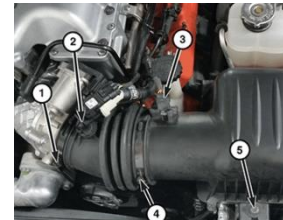

Fig 1: Air body cleaner
6. Remove the air cleaner body (see Fig 1):
- a. Loosen the air inlet tube retaining clamp at throttle body (Fig 1: ①).
- c. Disconnect makeup air hose and remove the makeup air sensor from the air inlet duct (Fig 1: ②).
- d. Disconnect the MAF sensor (Fig 1: ③).
- e. Remove the air cleaner housing retaining bolt (Fig 1: ④).
- f. While lifting, slide air duct off the throttle body (Note: it may be necessary to remove the air inlet tube clamp to remove the duct → Fig 1: ⑤).
- a. Fig 1: ☉ torque spec = **4 Nm (35 in.lbf)**
- b. Fig 1: ☉ torque spec = **4 Nm (35 in.lbf)**
- c. Fig 1: ☉ torque spec = **4 Nm (35 in.lbf)**